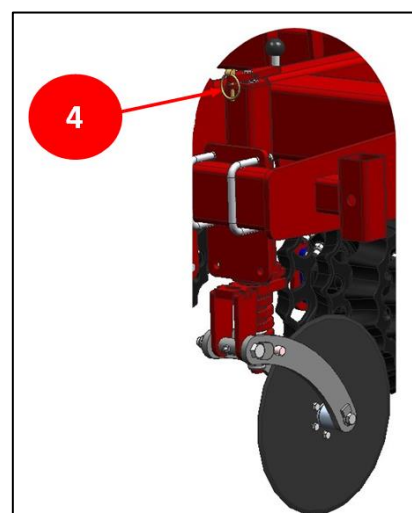

Figure 5 Adjusting the dept of the cutting disc.
When adjusting the rollers, the depth of the cutting disc must be adjusted at the same time, +/- 5-8 cm into the ground and this is done by using the adjusting spindle (4). See Figure 5.